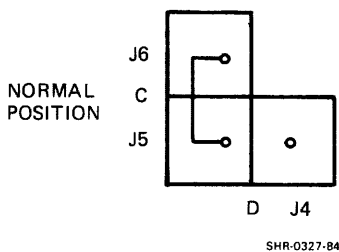

Figure 2-7 Test Jumper
**2.2.6 Test Jumper C, D (Figure 2-7)**